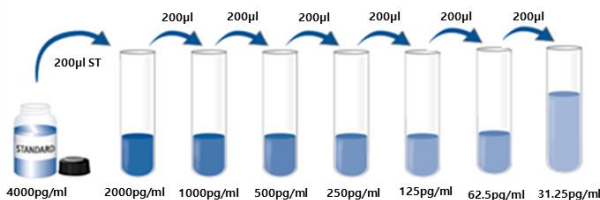

Figure 2. Preparation of standard curve dilutions.
- Label eight 1.5 mL microcentrifuge tubes from #1 to #8 to generate the dilutions for the standard curve. Serial-dilute the standard solution as follows (see Figure 2): Pipet 200 μ L of Diluent into tube #8 to 1, as shown in the diagram below. Make a serial dilution of standard (4,000 pg/mL) starting by transferring 200 μ L of it into tube #8, and subsequently 200 μ L from tube #7 to #6, as shown in the diagram, and mixing well after each transfer. Do not transfer any further volume into tube #1 (0 pg/mL).